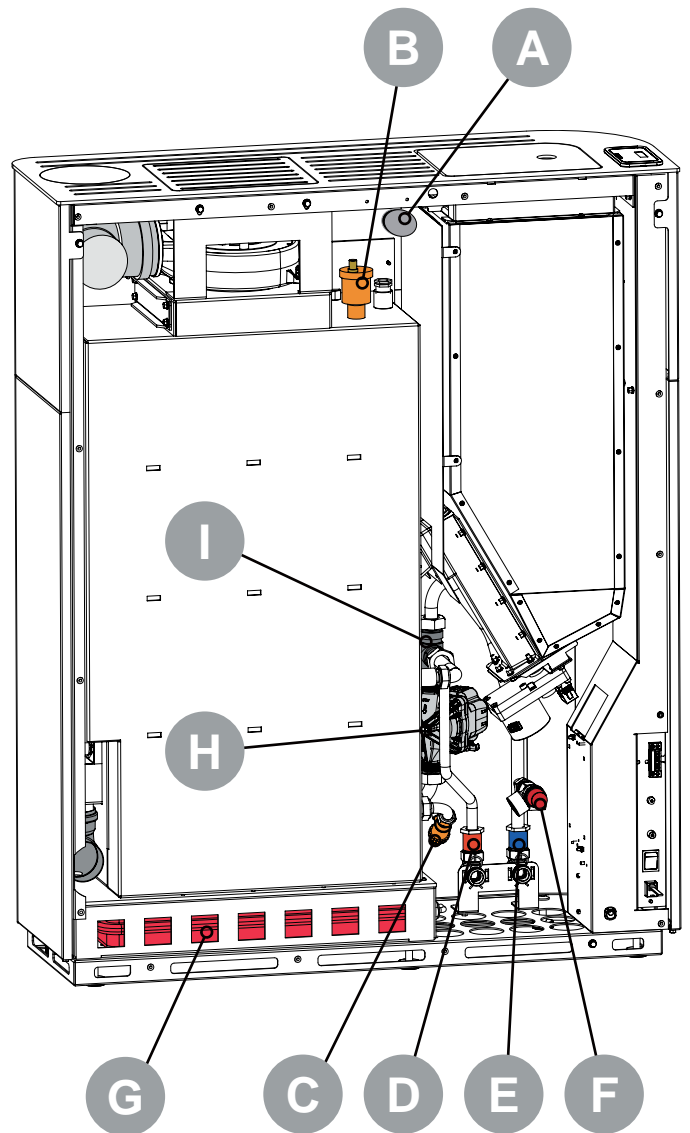

fig. 5.15
5.8.1 Description of water circuit (fig. 5.15)
5.8.2 Water connections (fig. 5.15)
- Prepare a waste tube, of appropriate diameter, which connects to the safety valve (F) discharge.